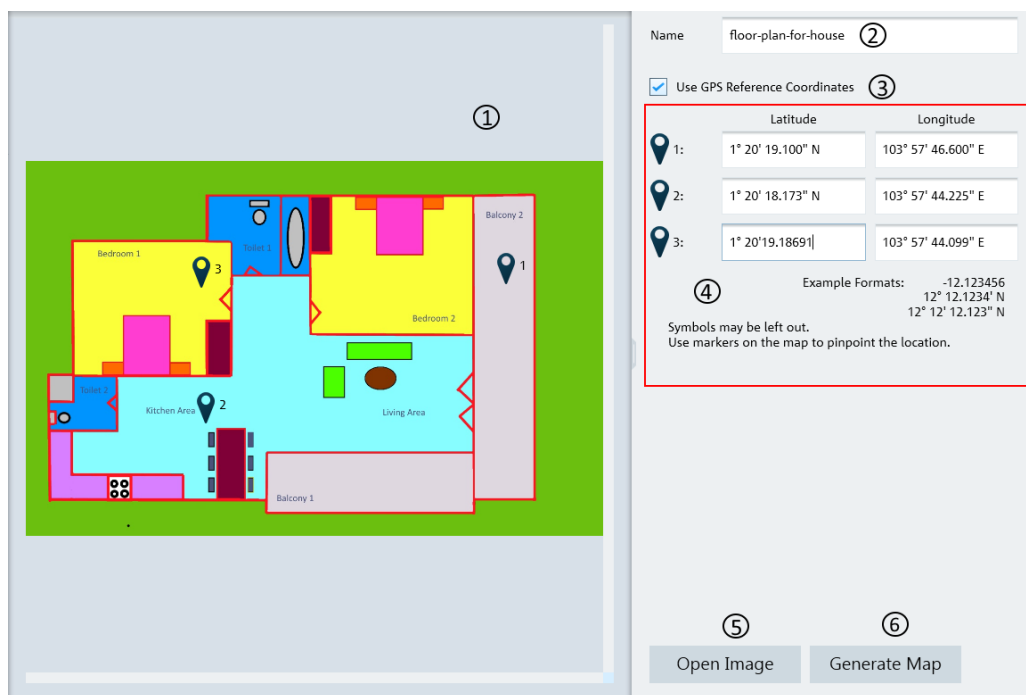

Figure 5-37: Map creator dialog box
the entry field (see item 4 of Figure 5-37) . With a GPS referenced map, it provides the following useful features: